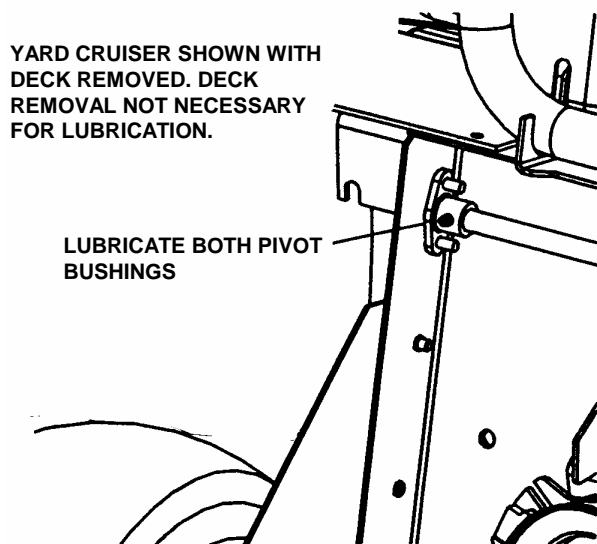

FIGURE 3.7
- e. Lubricate both pivot bushings with three shots general purpose grease from grease gun. See Figure 3.7